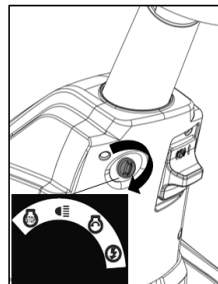

Figure 30
4. Attempt to start the engine, i.e. ignition key in position II (Figure 30).